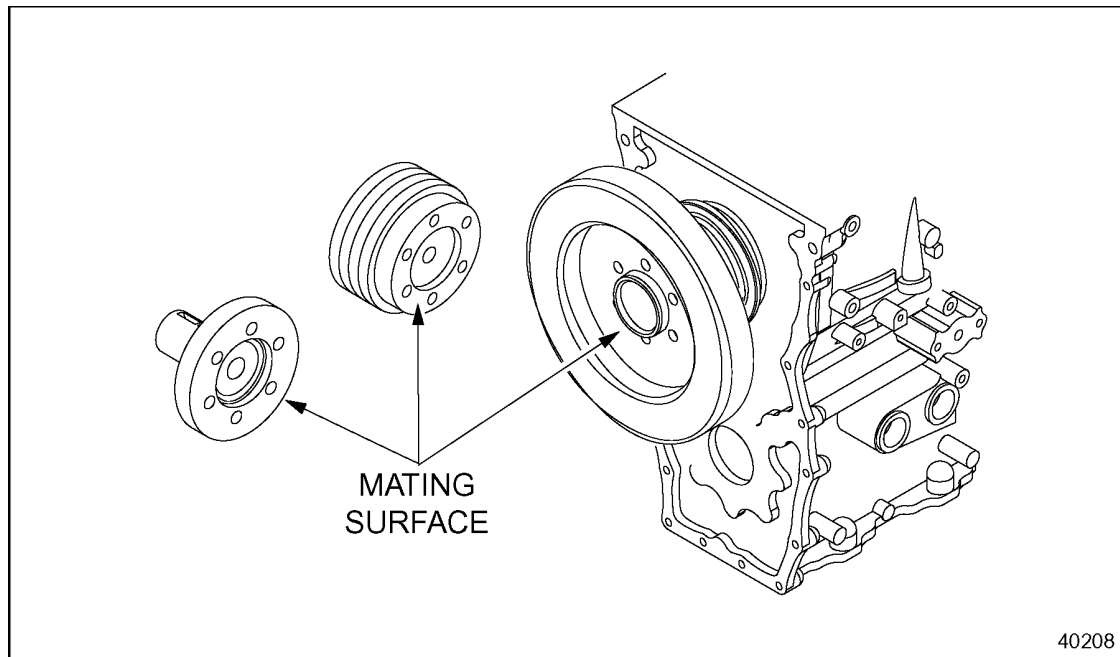

Figure 1-205 Crankshaft Pulley (or Spindle) and Vibration Damper Inspection
4. Inspect the direct mounted pulley (or spindle) and vibration damper inner contact surfaces. See Figure 1-205.